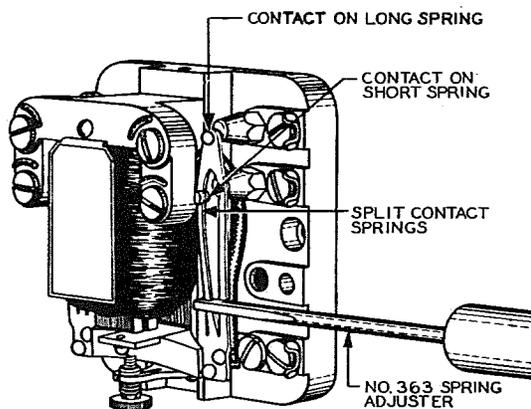

Fig. 9 - Method of Adjusting for Contact Sequence on Split Contact Springs
(2) With the exception of KS-5635 and KS-15601 ← relays which are covered in (1) above, if the relay is equipped with split contact springs and the contact on the long spring does not close at the same time as the contact on the short spring, the trouble may be due to an unsatisfactory position of either the long or short spring. If either leg of the long spring is bowed or bent, straighten it with the duck-bill pliers as outlined in 3.03(1) and adjust the short spring as follows: Place the No. 363 spring adjuster on the short spring just below the contact. This may be facilitated by lifting the short spring with a toothpick. Slide the adjuster back along the spring as far as possible without forcing as shown in Fig. 9. Adjust the spring as required. Take care when doing this, as in general, only slight adjustment of the spring is necessary. Slide the spring adjuster toward the free end of the spring and then withdraw it. If difficulty is experienced in obtaining simultaneous closure of contacts on both NO and NC contacts, give preference to the NC contacts in making the adjustment, as the movement of the armature will, in general, overcome any slight differences in the closure of the contact. When access to the springs from the side is impossible, follow 3.03(1)(b). If any adjustments are made, recheck alignment (2.03).